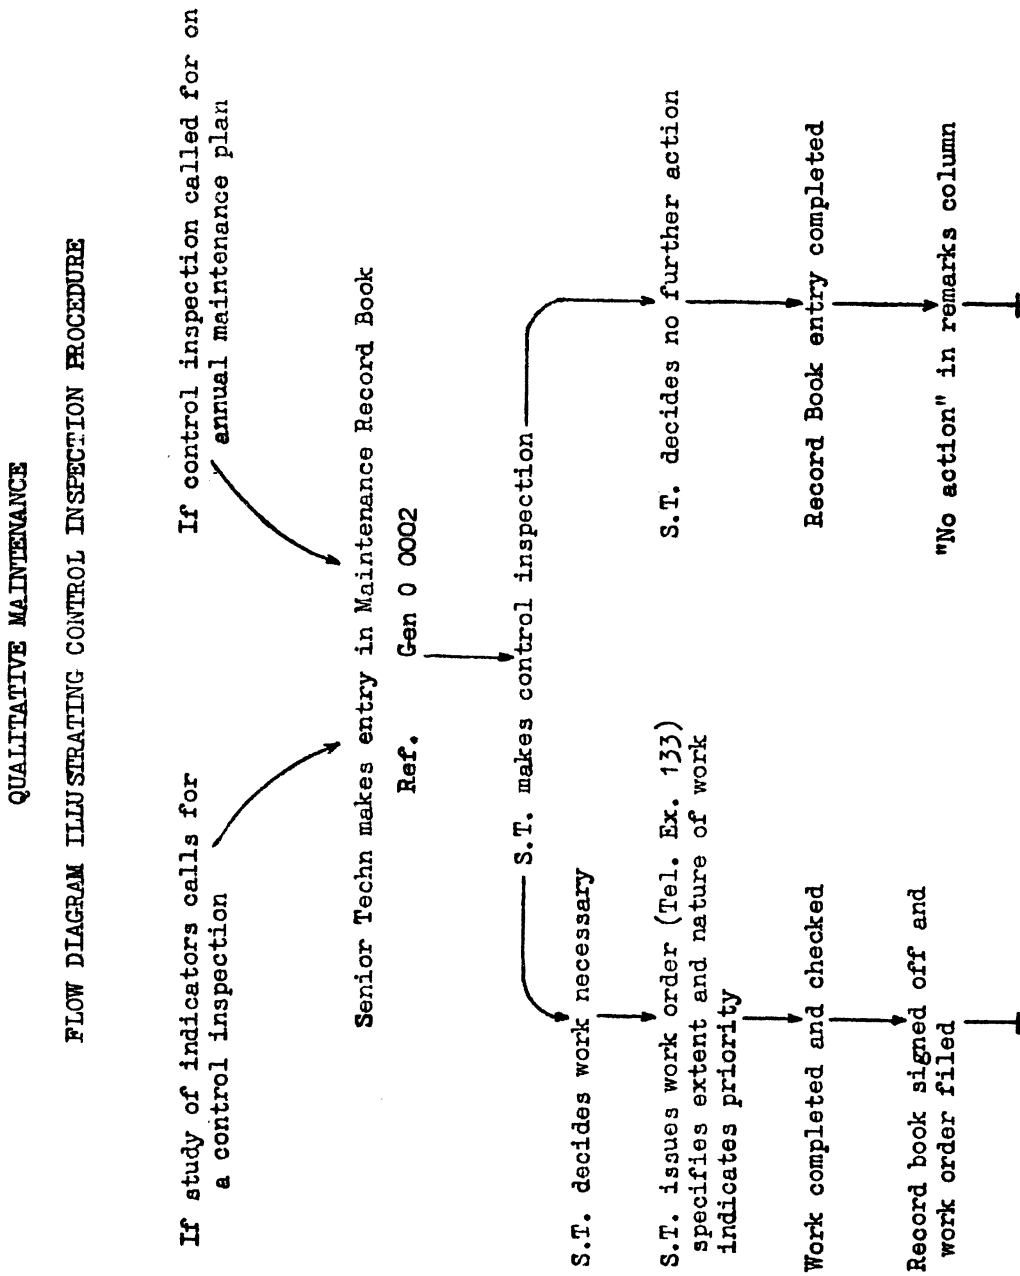

FIG. 1
2.2 Fig. 1 depicts in a flow diagram the actions that are taken when a control inspection is called for.
(Fig. 1, Tables 1 and 2 follow)